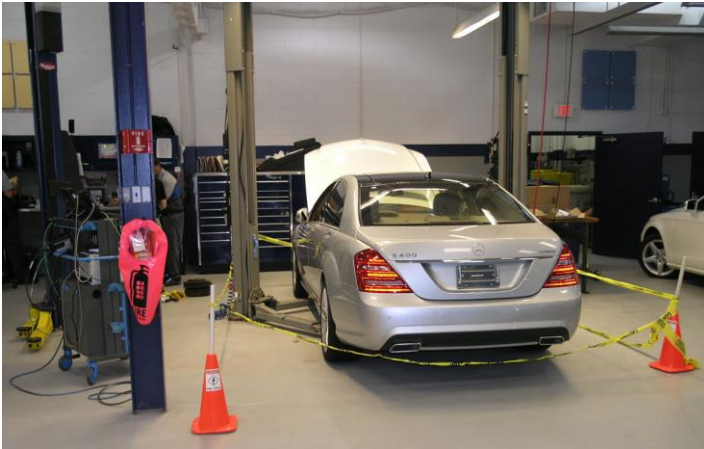

Figure 1
- Secure work area with high voltage warning tape and cones (Figure 1).